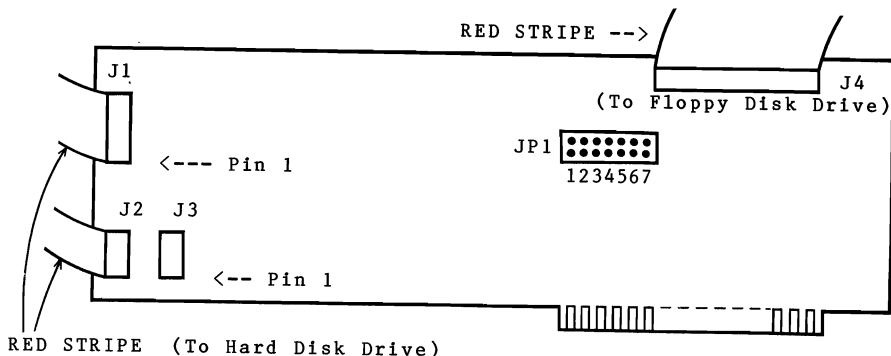
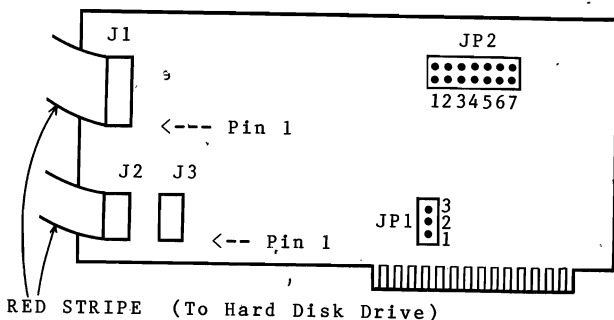

Figure 1. Location of Jumpers and Connectors on LCS-6220
Figure 2. Location of Jumpers and Connectors on LCS-6210D
- A. Plug the 34-pin (J1) cable in the 34-pin connector on the LCS-6200 series. If you are connecting two hard disk drives, use a daisy-chain cable which has connectors for two drives. The red stripe on the cable should be toward the bottom of the connector, corresponding to pin #1 on the controller (See Figure 1, Figure 2). The cable extends in the direction of the end of the board.